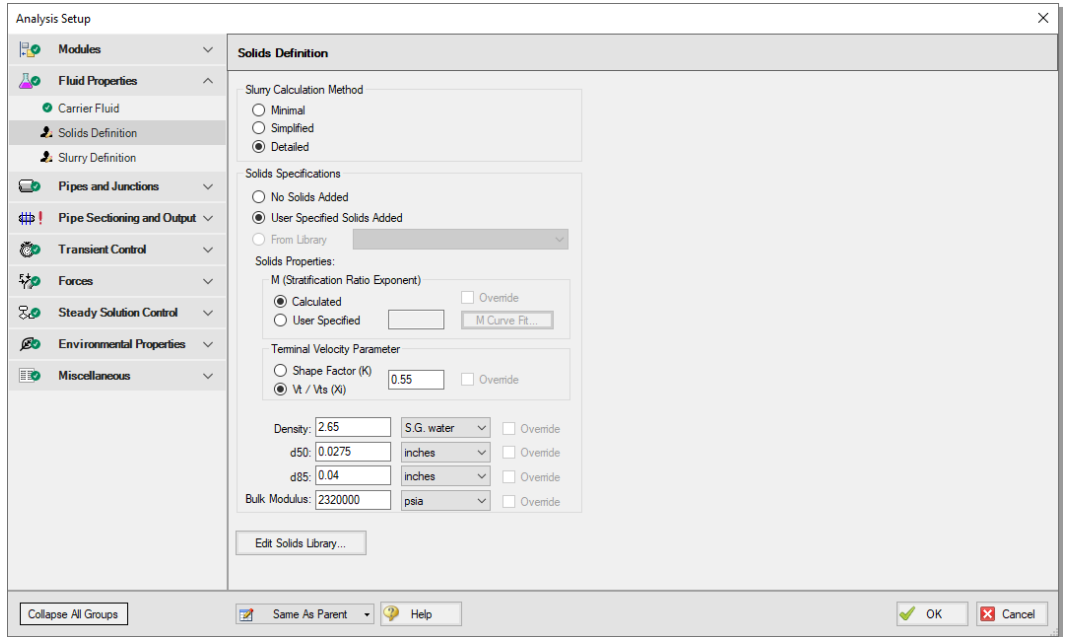

Figure 6.3 Completed Solids Definition panel
1. Go to the Solids Definition panel (Figure 6.3)